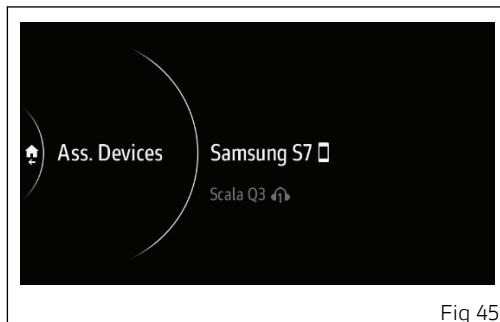

Fig 45
- All paired devices (Fig 45) are listed. Select the desired device and press the joystick in the middle or in the RH ► position.